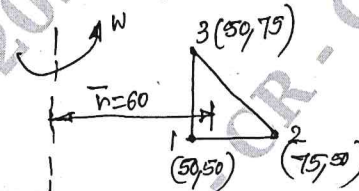

Fig.Q10(a)
- 10 a. For the element of an axisymmetric body rotating with constant angular velocity $\dot{W} = 1000$ rev/min as shown in Fig.Q10(a). Determine the body force vector. Include the weight of the material, where the specific density is 7850 kg/m^3 .